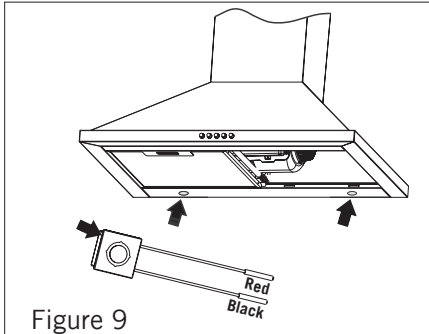

Figure 9
- LED bulb does not operate is possible to remove as shown in **Figure 9**
- Bulb does not operate is possible to remove as shown in. **(Figure 9)**